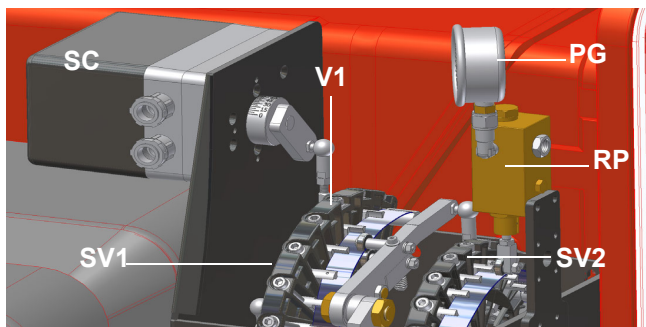

Fig. 3
- Change the filter if the pressure difference between pressure connection 1 and 3 (Fig. 1-Fig. 3) is $\Delta p > 10$ mbar.
- Change the filter if the pressure difference between pressure connection 1 and 3 (Fig. 1-Fig. 3) is twice as high compared to the last check.